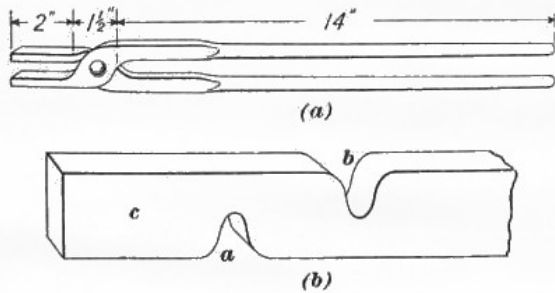

FIG. 44
78. **Making a Pair of Tongs.**—To make the tongs shown in Fig. 44 (a), a length of  $1\frac{1}{2}'' \times \frac{1}{2}''$  bar is heated at one end, for a length of about 5 inches, to a good white heat, and is then fullered down as shown